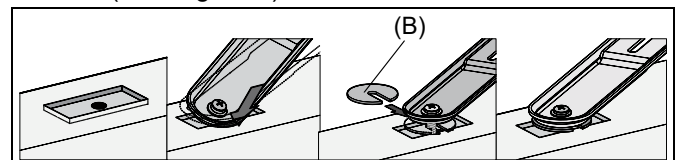

Figure 6
IMPORTANT ! : If needed, use fender washers (B) under soundbar bracket (A) to rest flat onto the soundbar surface. (See Figure 6)